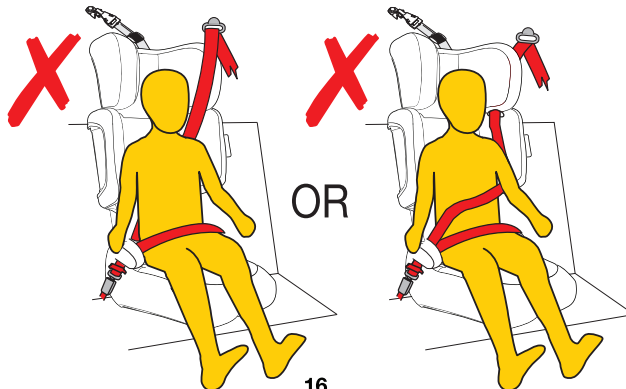

Figure 6
Step 2: Adjusting the headrest height to position the sash guide near your child's shoulders to enable the car seat belt sash to be in the correct position (refer Figure 6)(see using Lap-Sash seat belt pages 14-16).
Step 7: Pass the shoulder belt through the belt sash guide (refer Figure 6) which is moulded in the side wings of the headrest. Ensure the headrest is positioned as per "Adjusting the Headrest" (see Page 13).